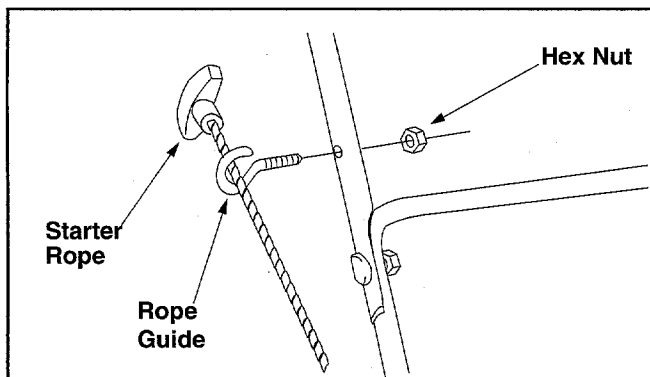

Figure 7
- Loosen the wing nut that secures rope guide to handle. With the spark plug wire disconnected and grounded, hold the control lever against the upper handle, and pull the starter rope out of the engine. Release the control handle, slip the starter rope into the rope guide, and tighten the wing nut. See Figure 7.